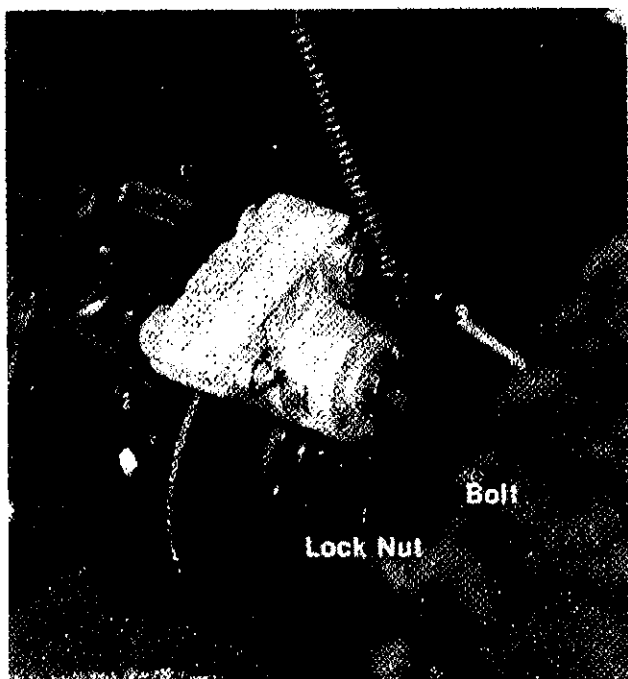

FIGURE 23.
1. Loosen the lock nut. (See figure 23.)